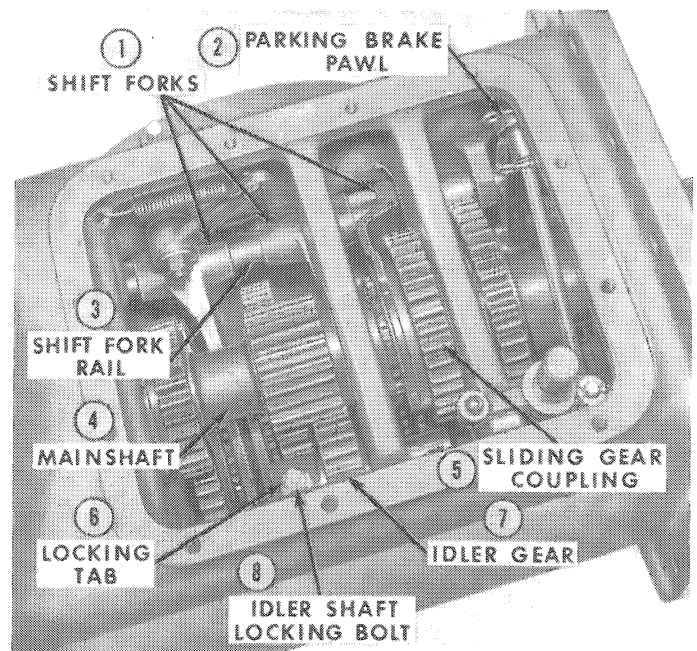

Figure 53
7. Bend down the locking tab, Figure 53, and remove the idler shaft bolt and the tab. Hold the idler gear, and push the shaft to the rear of the transmission to remove the shaft. Remove the idler gear by rolling it out of the case on the mating teeth of the mainshaft.
10. Remove the sliding gear coupling, Figure 53, from the case. Remove the oil seal from within the mainshaft.